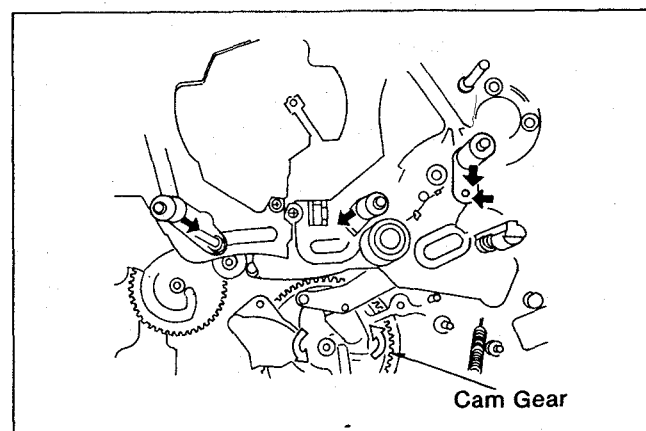

Fig. M25
- (1). Turn the Cam Gear to counterclockwise that set the Mechanism to stop position(unloading end). as shown in Fig.M25.